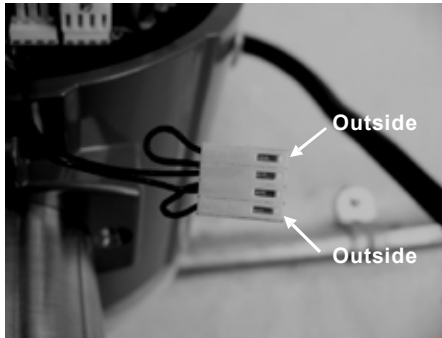

Fig. 62 Temperature Sensor Connector
3. Using ESD precautions and hazardous area precautions, remove the electronics enclosure window cover. Disconnect the temperature sensor from the electronics stack or the remote feed through board. Refer to Figure 62 or 63. Measure the resistance across the outside pins of the temperature sensor connector. It should read approximately 1080 ohms at room temperature (higher resistance at higher temperatures).